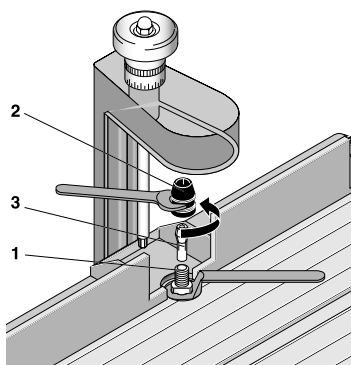

Fig. 3a
1. Hold the output shaft 1 (see Fig. 3a) with the included open-end spanner and use the other spanner to unscrew and remove the swivel nut 2.